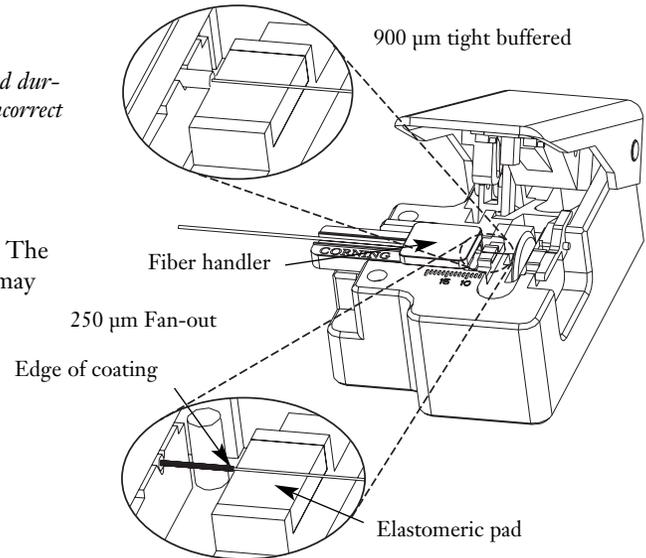

Figure 15
6.7 Position the handler in the cleaver so that the edge of the fiber coating aligns with the edge of the left-hand elastomeric pad (Figure 15). The coating should lightly contact the pad's edge. No pressure is required.